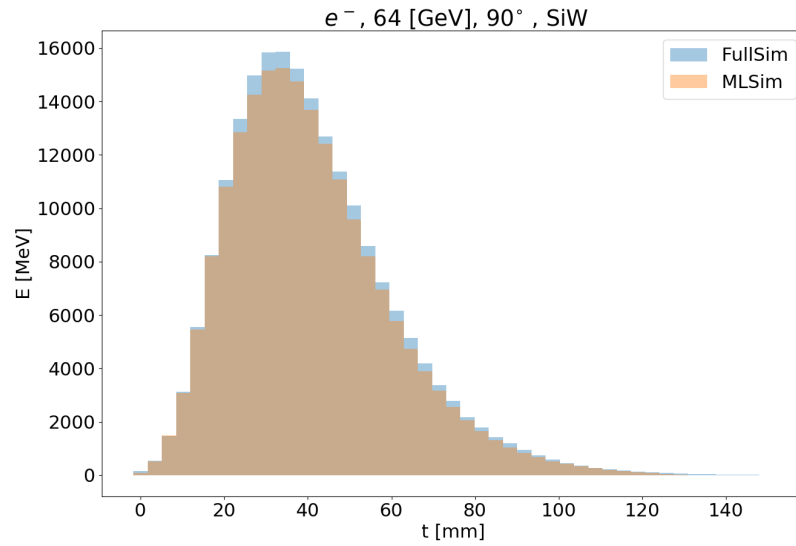
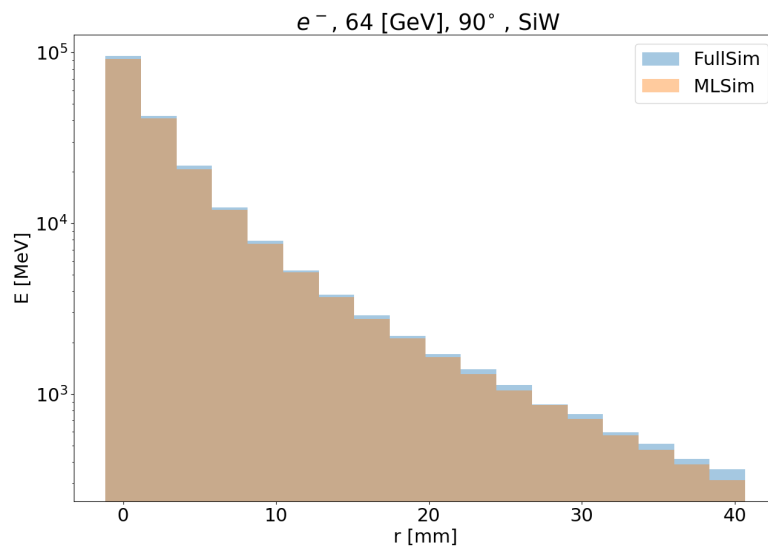
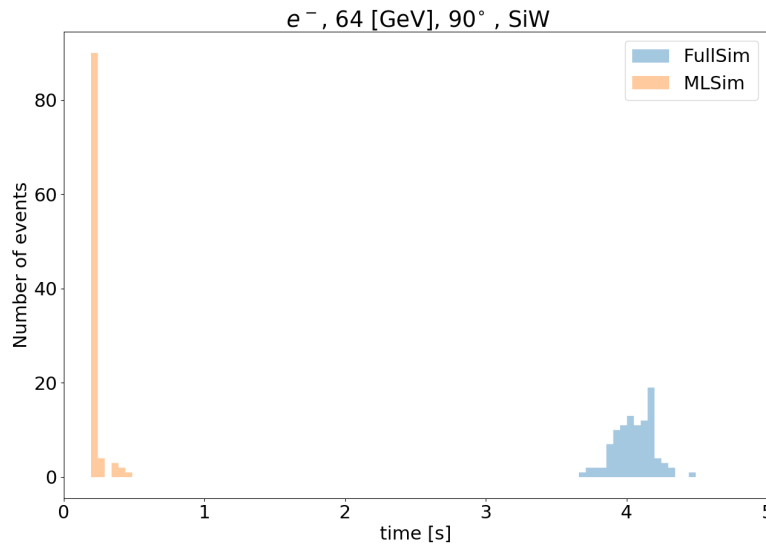

Fig. 10.3: Longitudinal profile for 64 GeV electrons.
Fig. 10.4: Transvers profile for 64 GeV electrons.
Fig. 10.5: Simulation time for 64 GeV electrons.
The three figures below show the validation plots comparing the full simulation to the (ML) fast simulation after using the inference with ONNX. The plots show the longitudinal (Fig. 10.3), transverse profiles (Fig. 10.4) and simulation time (Fig. 10.5) for 64 GeV particles with an angle of 90 degrees.